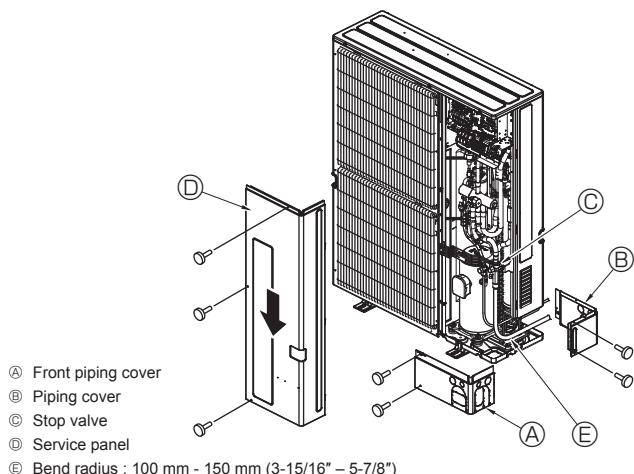

Fig. 4-8
- (A) Valve body
- (B) Unit side
- (C) Service port
- (D) Handle
- (E) Cap
- (F) Completely closed
- (G) Completely open
- (H) Refrigerant piping side (On-site installation)
- (I) Direction the refrigerant flows in
- (J) Valve stem
4.4. Refrigerant piping (Fig. 4-8)